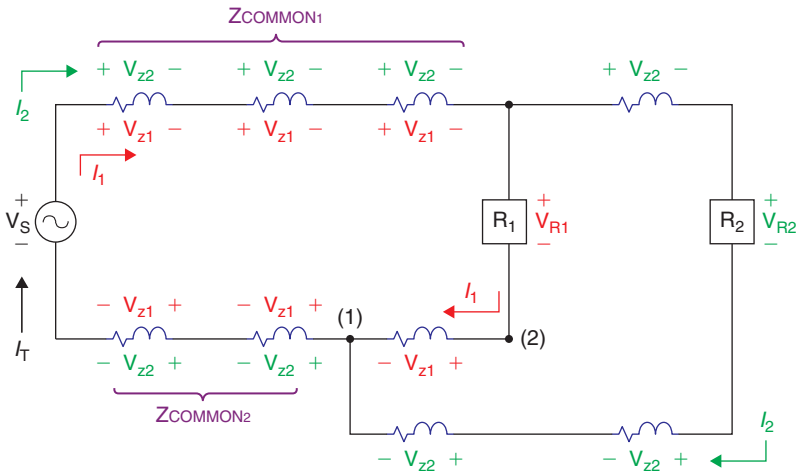

Figure 6-10 The actual circuit—the hidden schematic.
With this understanding we can see from Fig. 6-10 that there is an “unseen” schematic within the PCB. As a result, although the relationship $I_T = I_1 + I_2$ is still true, it should be realized that $V_{R1} = V_{R2} = V_S$ is no longer true, because there are voltage drops along the shared and individual impedances between the source and each of the loads. Furthermore points (1) and (2) and any other points along the return path are not equipotential. The ideal, equipotential ground plane does not exist in practice.